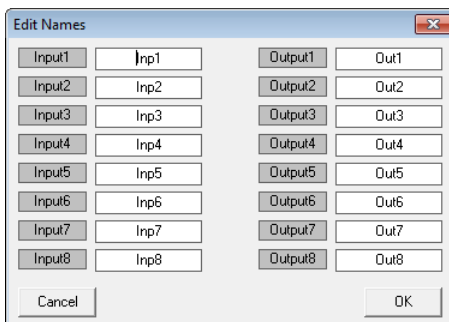

Fig. 33 Window "Edit Names"
- 1) In the view "Inputs" or in the view of an output, double-click a tab. The dialog window "Edit Names" (fig. 33) is displayed.